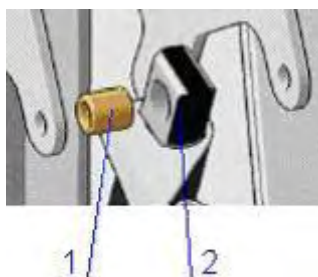

Fig. 9
- 9) Inspect the tip of the actuator (2) KA6030404 for play. If play exceeds  $\frac{5}{256}$  " (0.5 mm), replace the bronze bushing (1) KA6030005 in the tip of the actuator KA6030404 (Fig. 9).